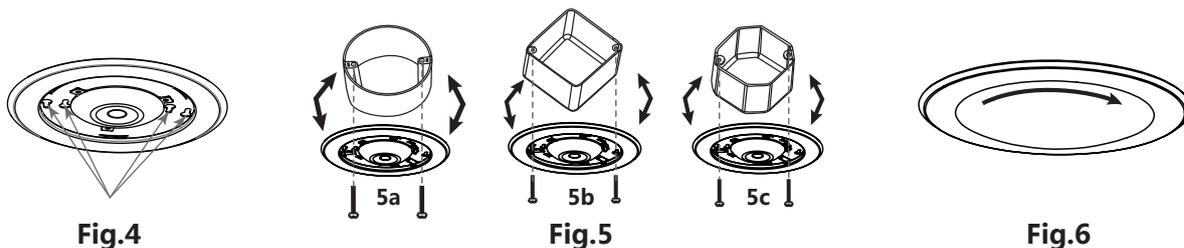

Fig.4
- 4) Align appropriate holes (Fig 4) in the mounting bracket with the holes in the junction box. Using 2 of the longer screws (either #6 or #8 screws depending on the size of the holes in your junction box) attach the mounting bracket to the junction box. Tighten screws until bracket is flush with the ceiling. Do not over-tighten screws or fixture will not be tight to ceiling (Fig. 5). For wet location rating, LED module must be flush to the ceiling.